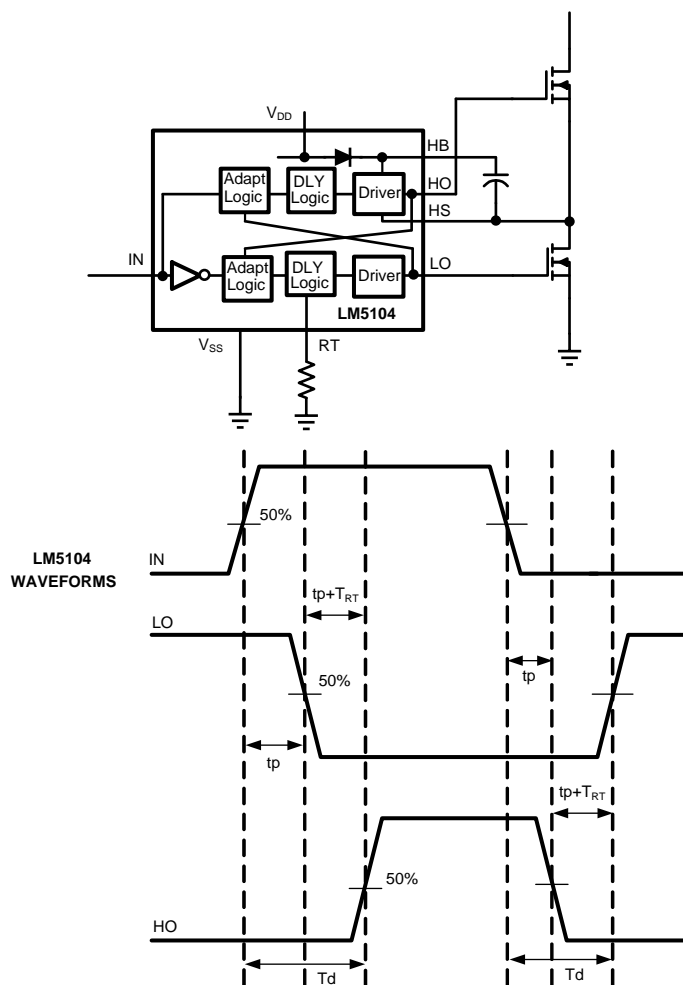

Figure 16. Application Timing Waveforms
LM5104 is a high voltage, high speed dual output driver designed to drive top and bottom MOSFET's connected in synchronous buck or half-bridge configuration, from one externally provided PWM signal. LM5104 features adaptive delay to prevent shoot-through current through top and bottom MOSFETs during switching transitions. Referring to the timing diagram Figure 16, the rising edge of the PWM input (IN) turns off the bottom MOSFET (LO) after a short propagation delay ( $t_p$ ). An adaptive circuit in the LM5104 monitors the bottom gate voltage (LO) and triggers a programmable delay generator when the LO pin falls below an internally set threshold ( $\approx V_{dd}/2$ ). The gate drive of the upper MOSFET (HO) is disabled until the deadline expires. The upper gate is enabled after the TIMER delay ( $t_p + T_{RT}$ ), and the upper MOSFET turns-on. The additional delay of the timer prevents lower and upper MOSFETs from conducting simultaneously, thereby preventing shoot-through.